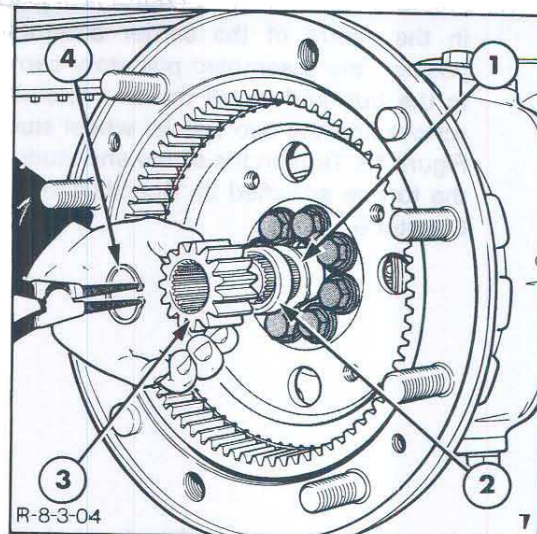

Figure 17
6. Install the sun gear/axle shaft thrust washer, spacer and sun gear, Figure 17. Lock the sun gear to the axle shaft using a new snap ring.